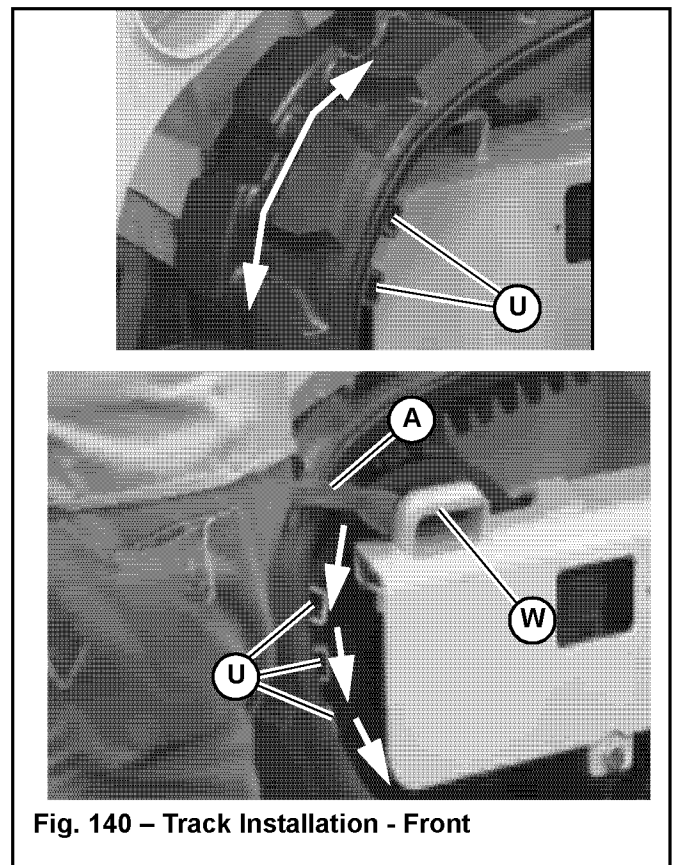

Fig. 140 – Track Installation - Front
10. Using a pry bar (A, Fig. 140) and wedging blocks (U), pull/guide the new track at (R) over the front idler wheel, and under the bottom rollers. Carefully direct an assistant to start the machine and direct the assistant to operate the track drive slowly forward/back to work the track over the front idler wheel.